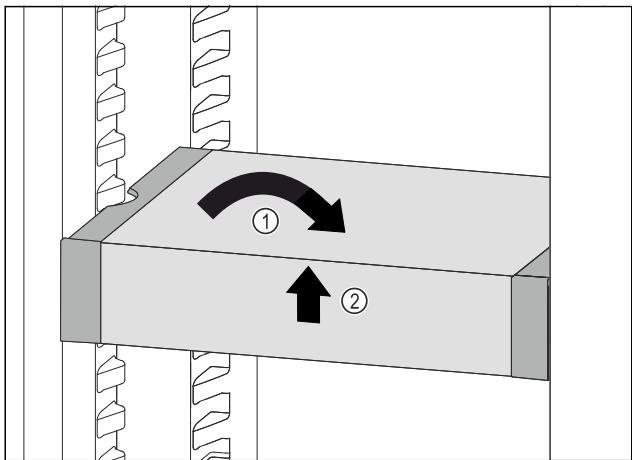

Fig. 122
- ▶ Set VarioSafe straight. *Fig. 122 (1)*
- ▶ Lift VarioSafe at the front. *Fig. 122 (2)*